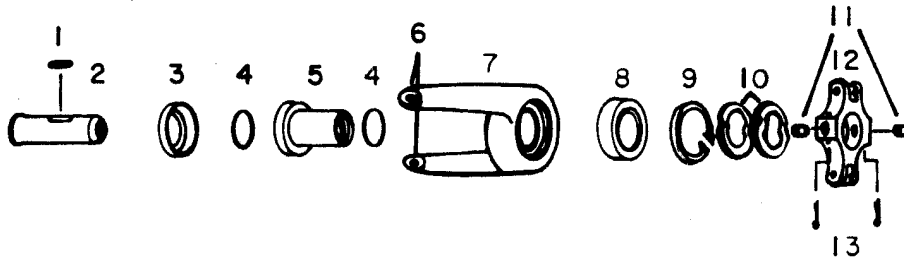

FIGURE 1
- e. Install cotter pins (13).
- f. Install seal (4) in groove on I. D. of outboard end of bearing (5).
3. Installation (Ref. Fig. 1)
- a. Slide seal retainer (3) and seal (4) on spacer (2) to a position inboard of spacer slots.
- b. Install keys (1) into slots of spacer (2).
- c. Align pitch control bearing (5) keyways with keys (1) and install pitch control assembly on spacer (2).
- d. Attach bearing housing (7) to control brackets by inserting the 28-16310-2 bolt through bushing (6) in bearing housing (7), 2 8-16308-1 washer, control bracket, AN 960-516 washers (as required) and secure with F12-NE4717-054 nut and AN381-2-10 cotter pin.
Parts List (Figures 1 thru 4)
Parts List (Figures 1 thru 4) continued
1. Removal (See Fig. 1)
- a. Disconnect pitch links from pitch link retainer (13).
- c. Remove cotter pins, nuts, and pivot bolts from bearing yolk (7) and control brackets.
- 1) Heat bearing housing (7) (Ref. Fig. 1) and install bearing (8).